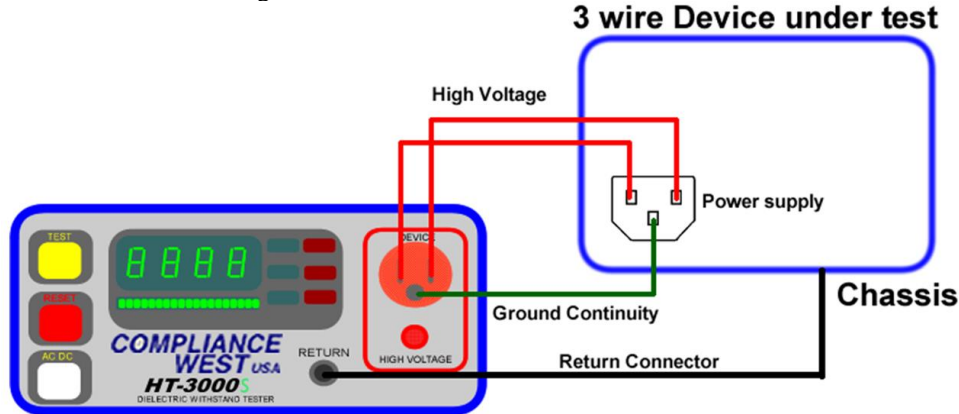

Figure 7. Testing a Three Wire Power Cord Device.
4. Plug the power supply cord of the device being tested into the **Device** receptacle on the front panel of the HT-S unit. See Figure 7 for detailed connections.